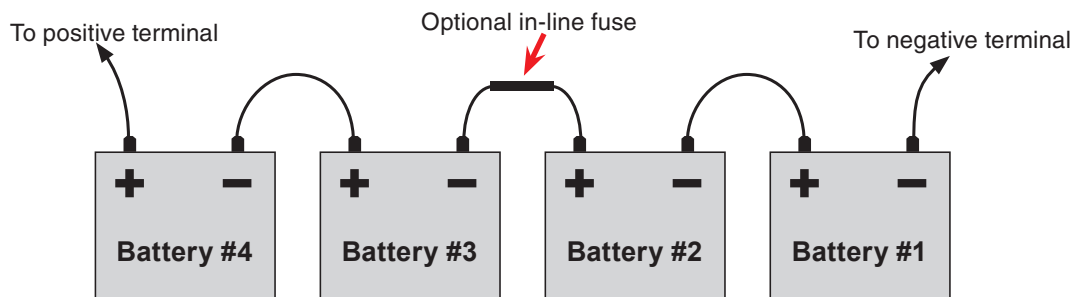

Figure 9 — External Battery Wiring—48 VDC string
2. Wire the batteries as shown in Figure 9. If used, install the in-line fuse as shown.